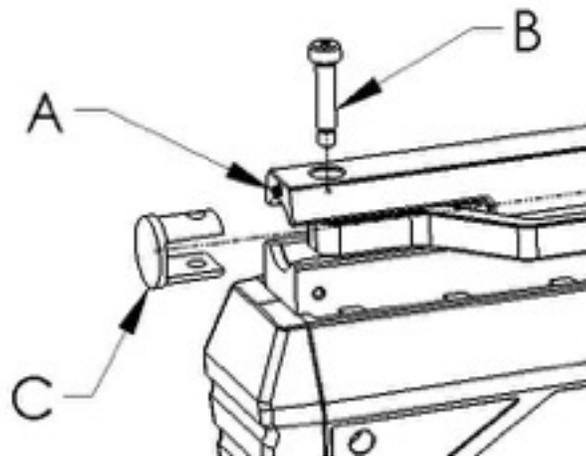

Fig. 4
8. Using the .050" Allen wrench loosen the jam set screw labeled "A". (Fig. 4) Using the 3/32" Allen wrench remove the pivot bolt marked "B". (Fig. 4) Do not wipe the lubricant off this bolt unless you have a suitable grease to reapply.
9. Pry the Cocking Lever Saddle labeled "C" from the Receiver and set aside for reinstallation. (Fig. 4)